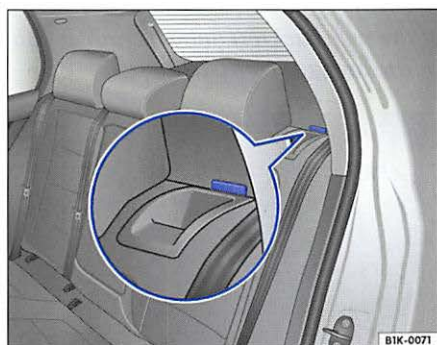

Fig. 50 Rear seat backrest marking
- Fold the backrest back up firmly until it engages. The red marking must not be visible ⇒ fig. 50. Make sure that the safety belts do not get trapped.